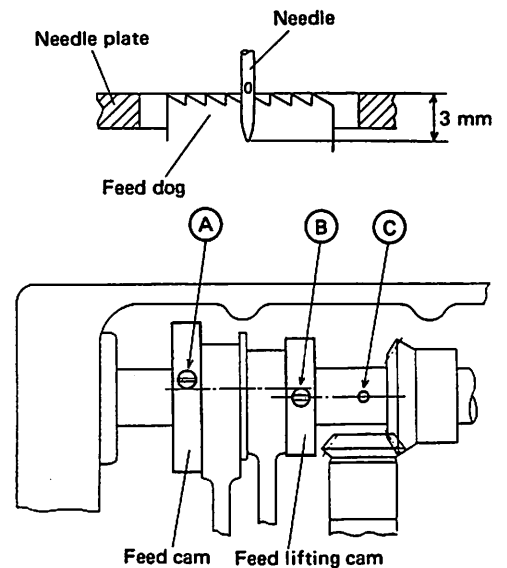

Fig. 21
- (1) The position for the standard feed timing is where the needle tip is located approximately 3 mm below the top surface of needle plate when the feed dog is sunk by turning the pulley and the teeth of feed dog align with the upper surface of needle plate. See Fig. 21.
- (2) Make adjustment by the mounting positions of feed lifting cam feed cam.
To install, set the third screw (A) of feed cam with respect to the second screw (B) of feed lifting cam as shown in Fig. 21.